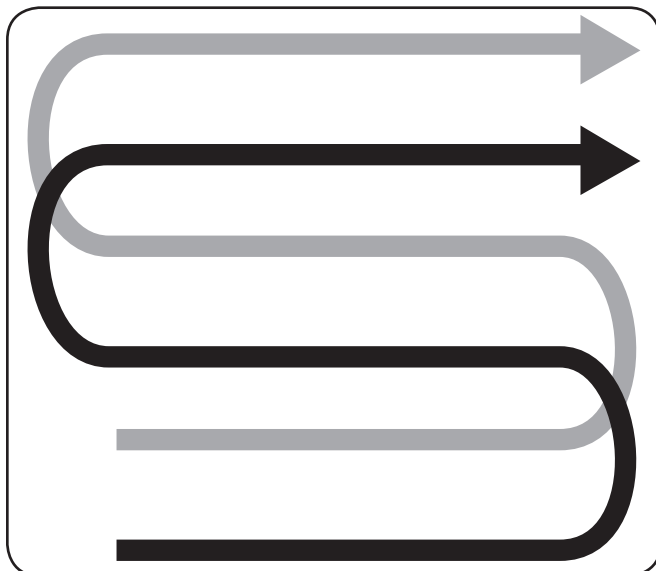

Figure 5-7
- When preparing a seedbed overlap one-half the tiller width on each the passes. See Figure 5-7.